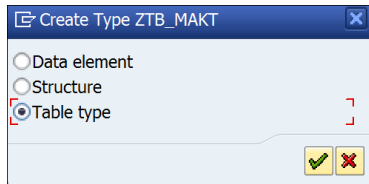

Figure 7.8 Modal Dialog Box to Select Table Type
2. In the modal dialog box that appears, select the TABLE TYPE radio button and click OK (see Figure 7.8).